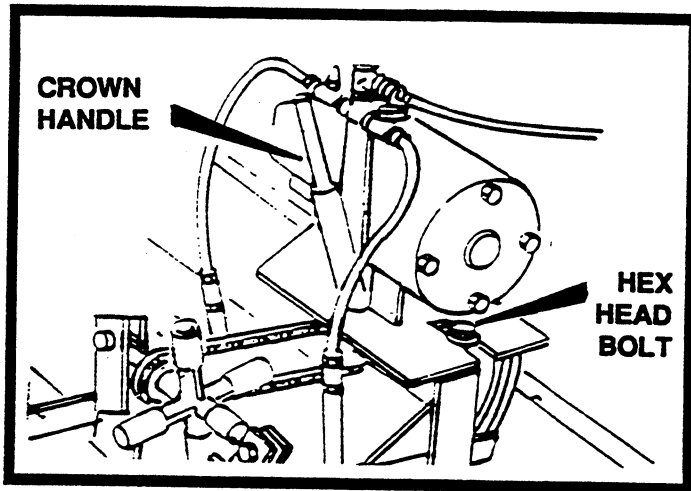

FIGURE 26
- A. Loosen nut in slot under vibration motor as shown in Figure 26.